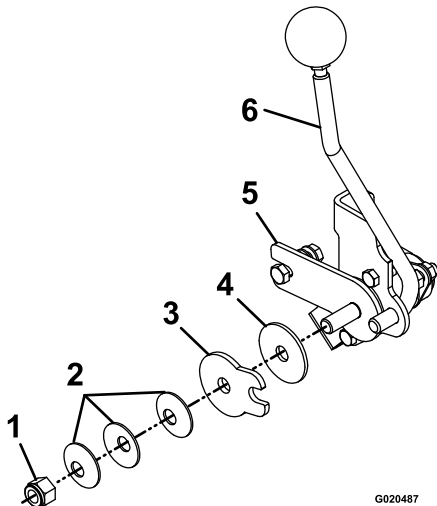

Figure 56
3. To adjust the tension, adjust the pivot nut which is located at the end of the motion-control shaft in front of the right console (Figure 56).